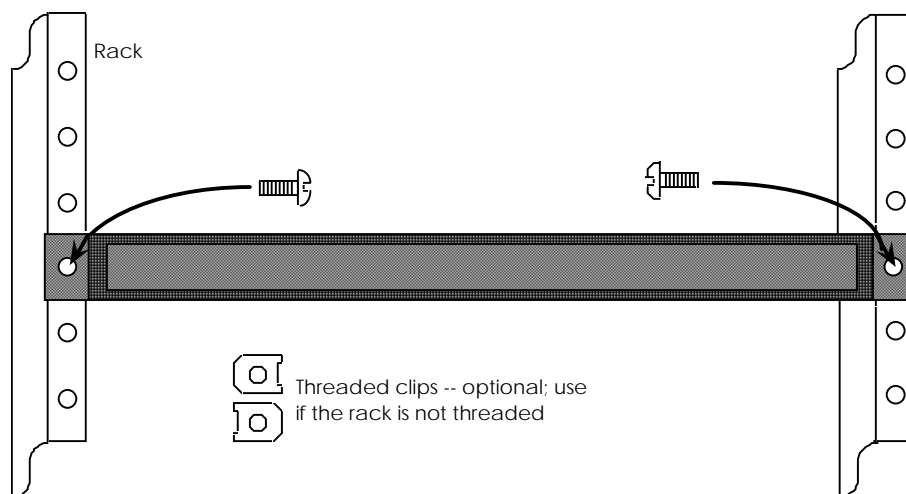

Figure 3 - Mounting a MAXserver in Rack
2. Secure the unit to the mounting rack using the supplied bolts, as shown in Figure 3. If the rack is not threaded, use the threaded clips supplied with the server.